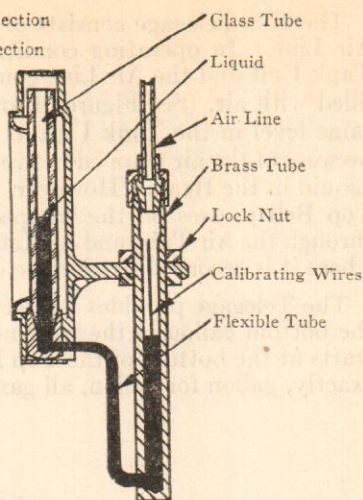

Fig. 4.
7. Remove (2) cap screws "J" (fig. 4).
4. Remove shoulder screw from bleeder screw "L" (fig. 4).
THE HEAD, shown in Fig. 4, is mounted on the Instrument Board. It is simply a U-tube containing a special heavy red liquid. The front half of the U-tube is a Glass Tube open at the top. The back half is a Brass Tube. A U-tube containing liquid is the most accurate instrument known for measuring pressure.